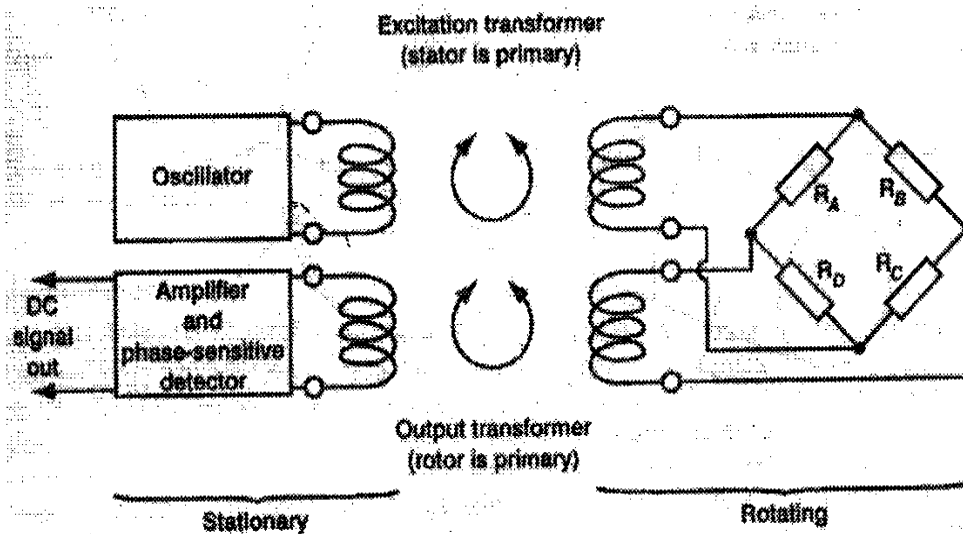

Figure 4.7 Rotary transformer circuit for supplying power to strain gauges
- b) Rotary transformer, see Figure 4.7.